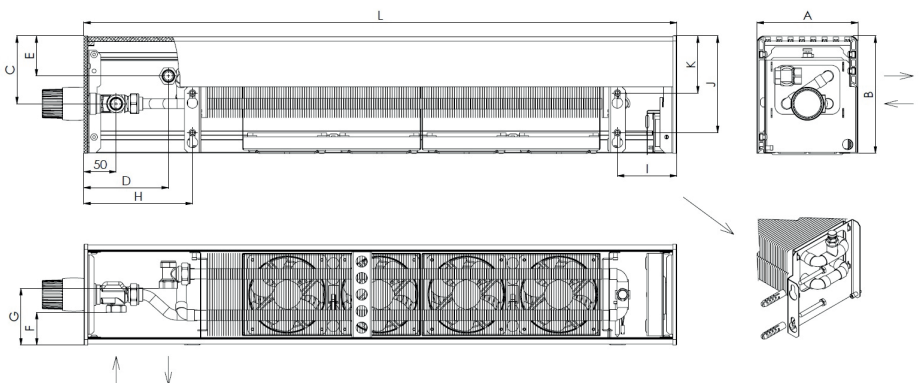

FIG. 2. Rear view
- According to the dimensions in table 1 and on Fig. 2: